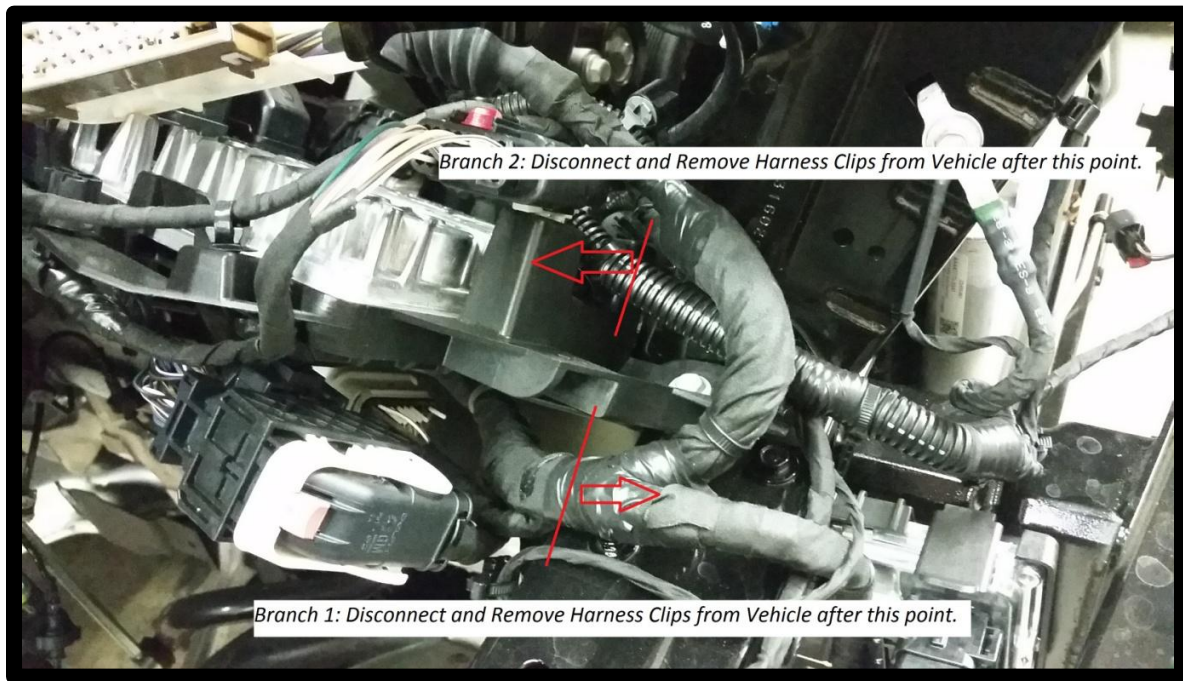

Figure 31: Disconnect Branches of Harness as Shown
37. The ECM plastic holder under the passenger side headlight needs to be modified as shown below. This can be done in the vehicle with a cutoff wheel and a die grinder. In order to do this; disconnect and lay off to the side the two branches of harness shown in Figures 31 and 32 below. Remove the harness after the marked lines in the direction of the arrows shown. These branches will need to be rerouted once the intercooler and tubes are installed.